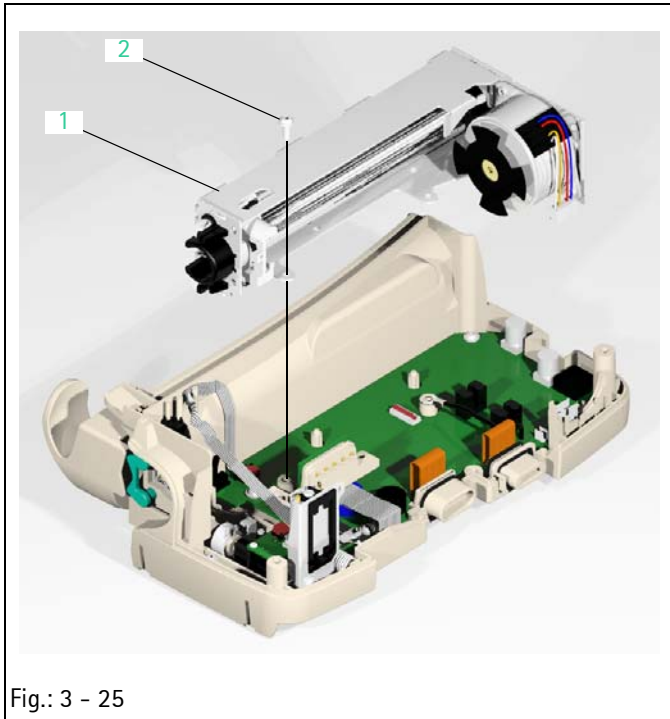

Fig.: 3 - 25
7. Unscrew one screw (first temporary screw) and remove the processor PCB ground cable (Fig.: 3 - 24 / Item 3).
Legend of fig. 3 - 25: